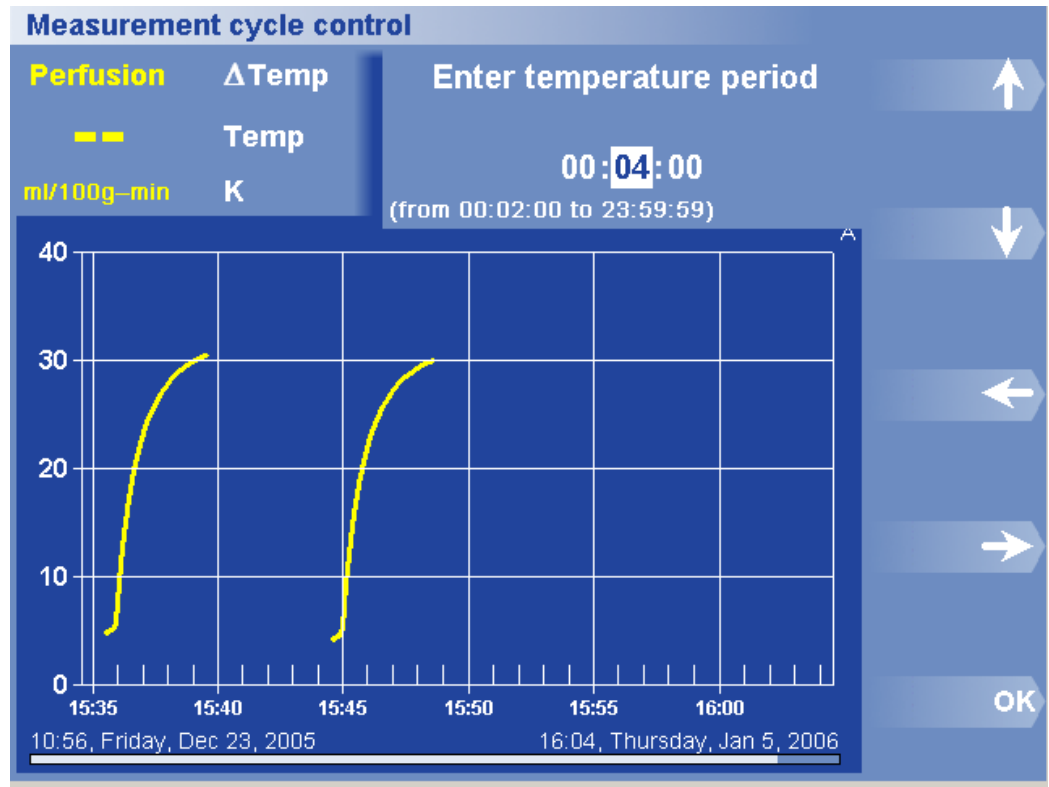

Figure 40. Temperature Period Dialog Box and Menu
2. Press Temperature Period. The Temperature Period dialog box appears (Figure 40).